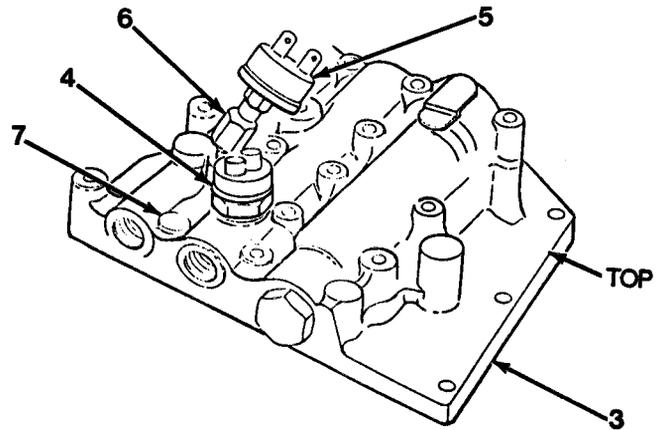
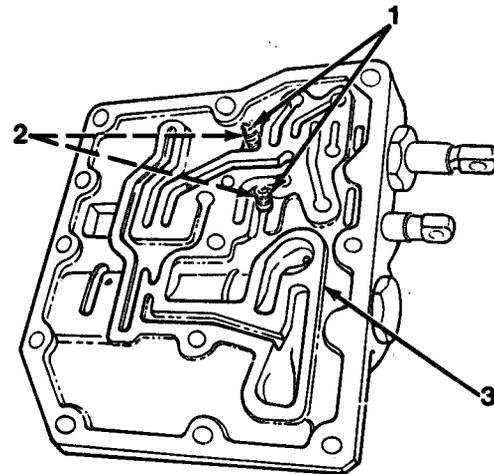

Figure 11-2
Figure 11-1
12. Using a seal driver, install oil seal (11) at top of bore on valve body (3), with lip of seal down.
13. Pull forward reverse stem (13) out of valve body (3) through oil seal (11), until linkage eye is protruding from oil seal (11).
14. Install stem assembly (12) in bottom bore of valve body (3), with linkage eye up.
15. Install oil seal (11) into plug (10).
16. Install O-ring (9) on plug (10).
17. Install plug (10) in bottom bore of valve body (3).
18. Install O-ring (9) onto plug (8).
19. Install plug (8) in bottom bore of valve body (3).
20. Remove valve body (3) from vise and lay on flat, clean surface.
21. Install pipe plugs (7, Figure 11-2).
22. Install elbow (6), reverse warning switch (5) and neutral safety switch (4) in valve body (3).
23. Install two balls (2) and detent springs (1) in back side of valve body (3, Figure 11-1).
1. Install 200 psi (1,379) gauge in port (1, Figure 11-1).
5. Remove plug (2), O-ring (3), regulator spool (4) and shims (5).
6. Check O-ring (3) for nicks or damage and regulator spool (4) to insure that it works freely in valve body.
7. Add shims (5) to increase pressure or remove shims (5) to decrease pressure.
8. Install shims (5), regulator spool (4), O-ring (3) and plug (2).